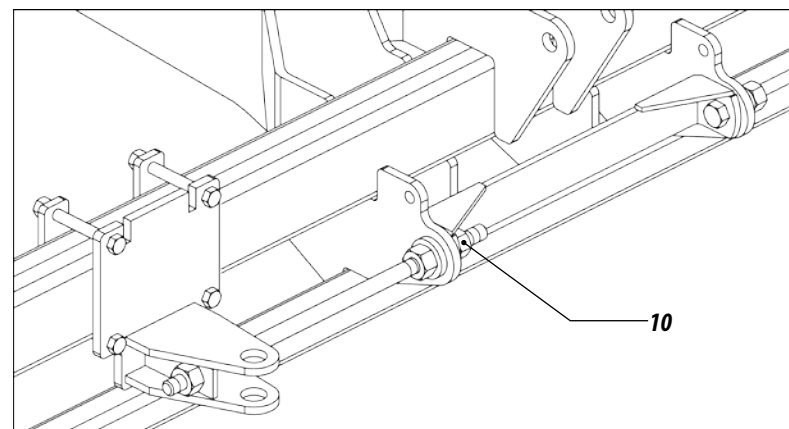

Figure 11
- 25 - After inserting the stabilizer bar, adjust the rod into the position of alignment and lock with the counterweights (10) figure 11.